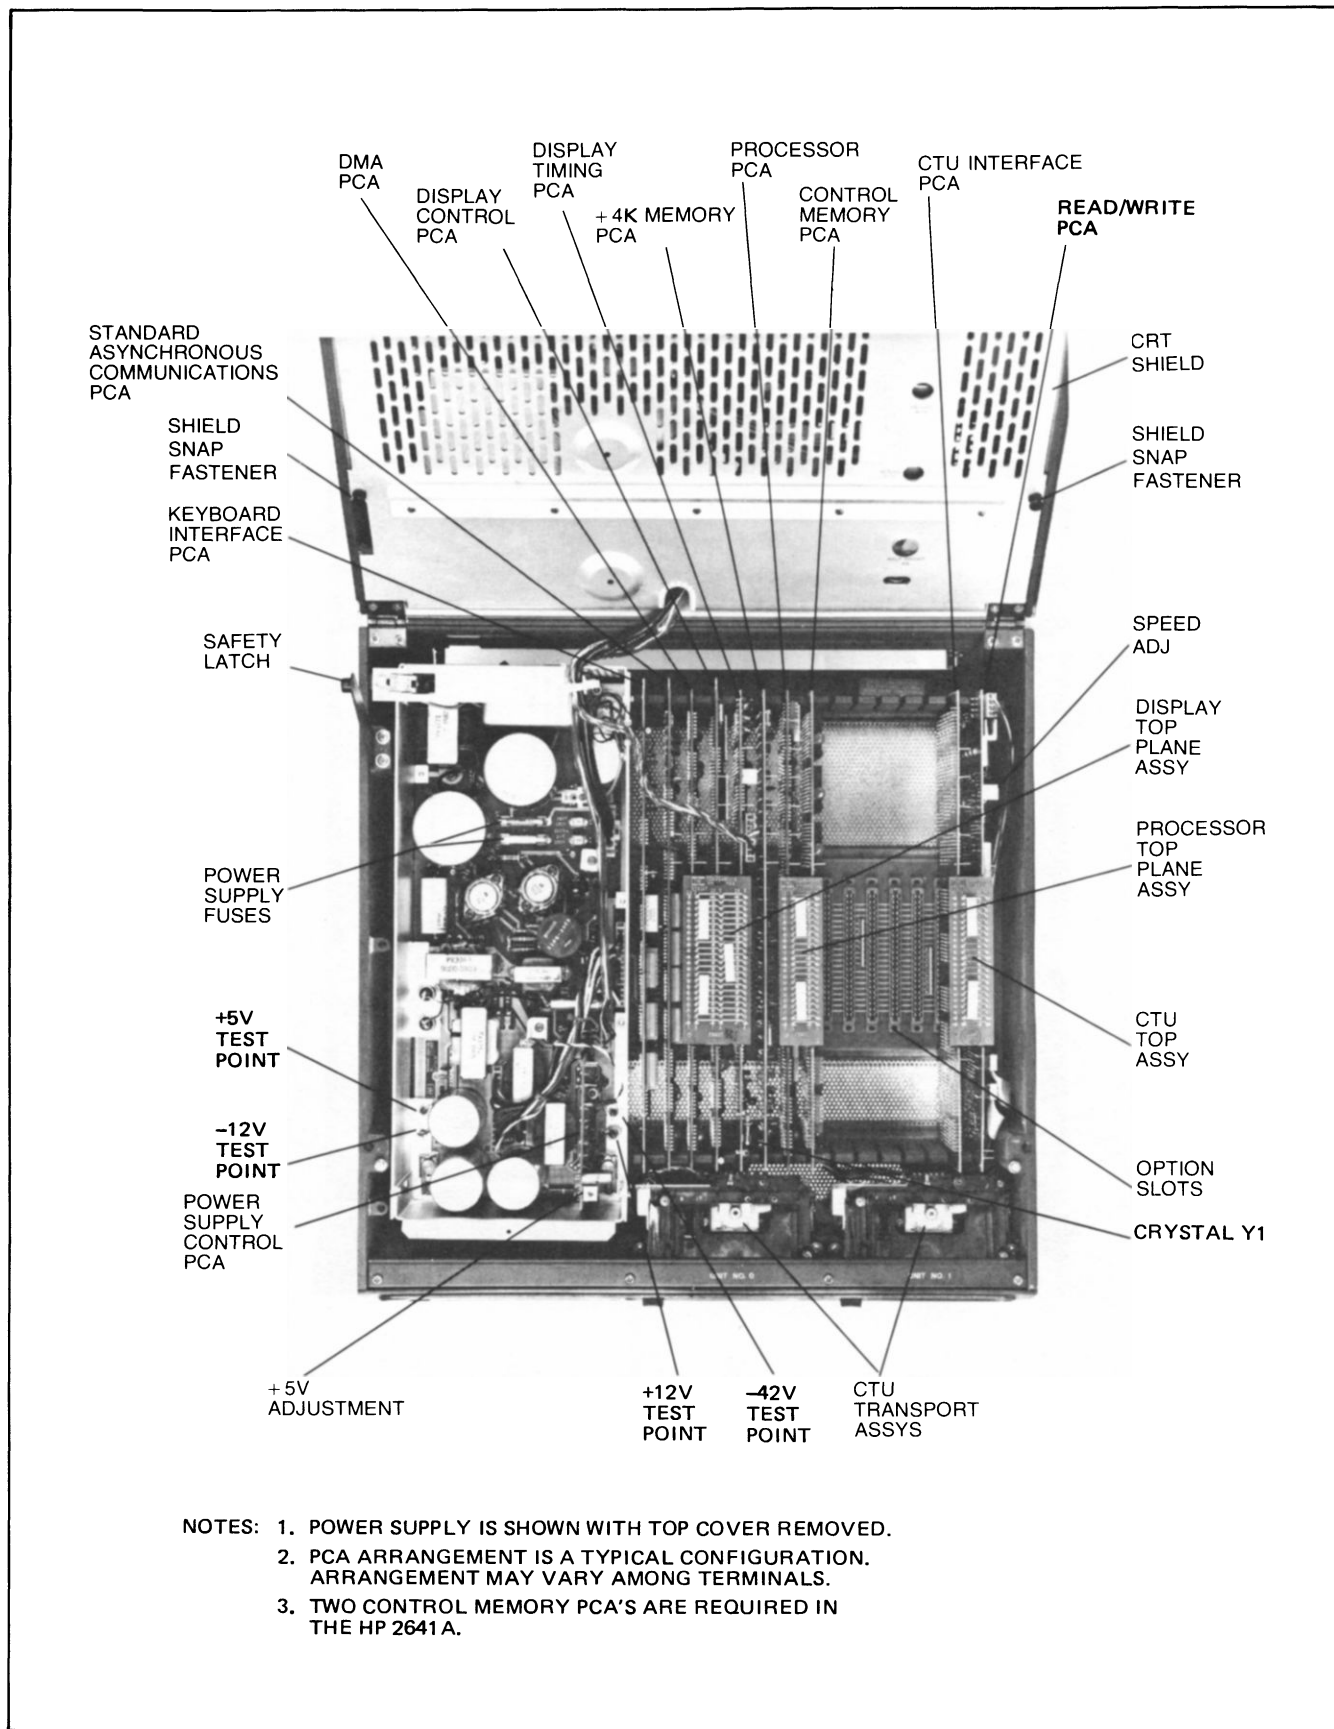

Figure 7-2. Mainframe Bottom Part Locations
- e. Firmly grasp top cover in one hand and release safety latch (see figure 7-2) by pressing it inboard with other hand. Then, using both hands, swing top cover up and over to a full open position (resting on its top).
4. () If changing from 60 Hz to 50 Hz operation or vice versa, ensure that crystal Y1 on the Display Timing PCA (figure 7-2) is changed. For 60 Hz operation, use a 21.06 MHz crystal (part no. 0410-0647) and for 50 Hz operation, use a 17.55 MHz crystal (part no. 0410-0646).